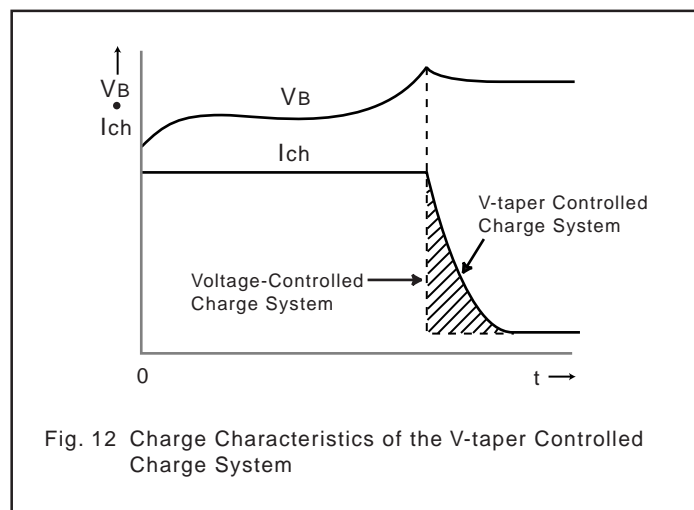

Fig. 12 Charge Characteristics of the V-taper Controlled Charge System
(2) Features
- In comparison with the voltage-controlled charge system, this method is capable of increasing the charge level by the amount indicated by the shaded area in Fig. 12. However, just as for the voltage-controlled charge system, the setting of the detection voltage is extremely difficult when charge Ni-Cd batteries.
(3) General Specifications